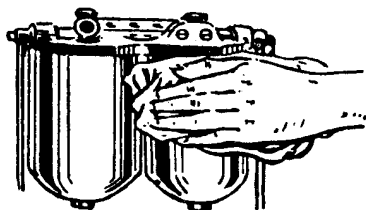

Figure 4
- Clean the filter assembly with a clean piece of lint free cloth. Figure 4 & 5.